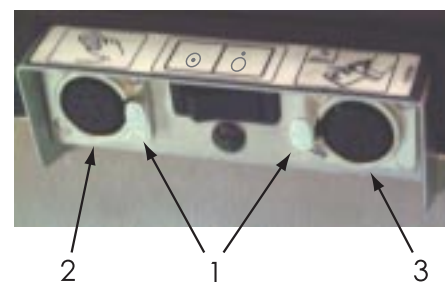

Fig. 5.18 Controller sockets and release buttons
The corded handset will operate any T30 Table. The corded handset simply plugs into either of the table handset sockets (item 3 of Fig. 2.2 and item 2, Fig. 5.18). Never plug handsets into both sockets at the same time. See section 5.3.3.2 for details of button function and section 5.3.1.1 for an explanation of the battery state LEDs.
To remove the handset plug from its socket the release button (item 1, Fig. 5.18) must be pressed and held in during removal. When removing the corded handset plug from its socket always grip and pull the plug, do not pull the cord only as this may damage the cord or internal connections.